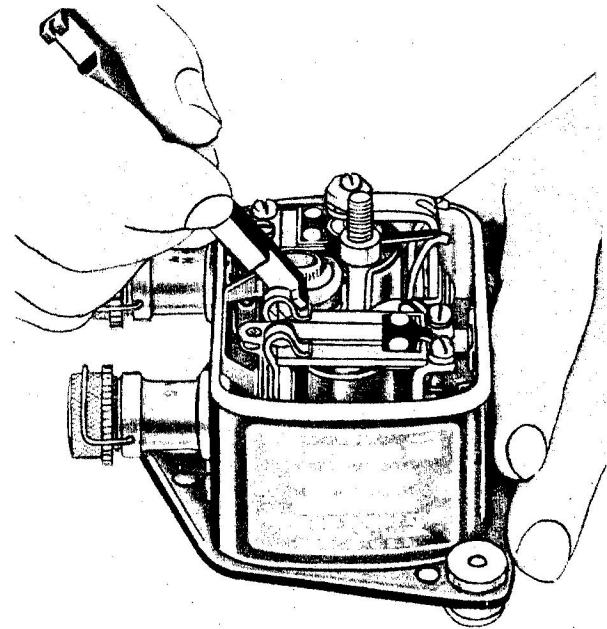

Figure 7 — Adjustment of Relay Contact Point Opening
(4) Check relay point opening. This must be .015 to .020 inch with relay armature plate resting flatly against both arms (27). If this is not found, use American Bosch tool TSE 702 and adjust arms (27) to give the proper point opening. (See figure 7.) After this adjustment, make certain that the relay armature plate, when in a free position, lies flat against both arms.